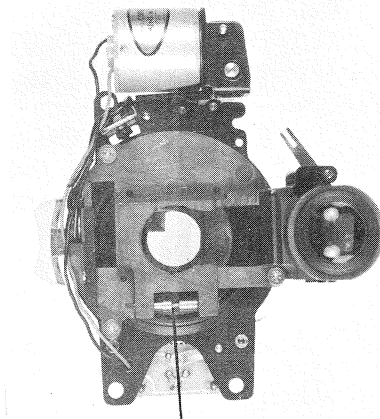

Fig. 38
- (1) Remove the side plate on the finder side.
- (2) Vertical adjustment is performed by turning the adjusting screw shown in Fig. 38 (1). Although this screw adjusts the slanting of the half mirror prism, the auto eye sensitivity is also affected when parallax is vertically adjusted as a reflector for reflecting light incident in the CdS direction is attached to the half mirror prism. Consequently, the auto eye must be checked when vertical adjustments are made.